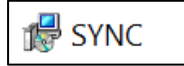

Figure 1
**Step 2:** Click the **SYNC.msi** file (**Figure 1**) and proceed through the setup (**Figure 2**) to launch SYNC for the first time.